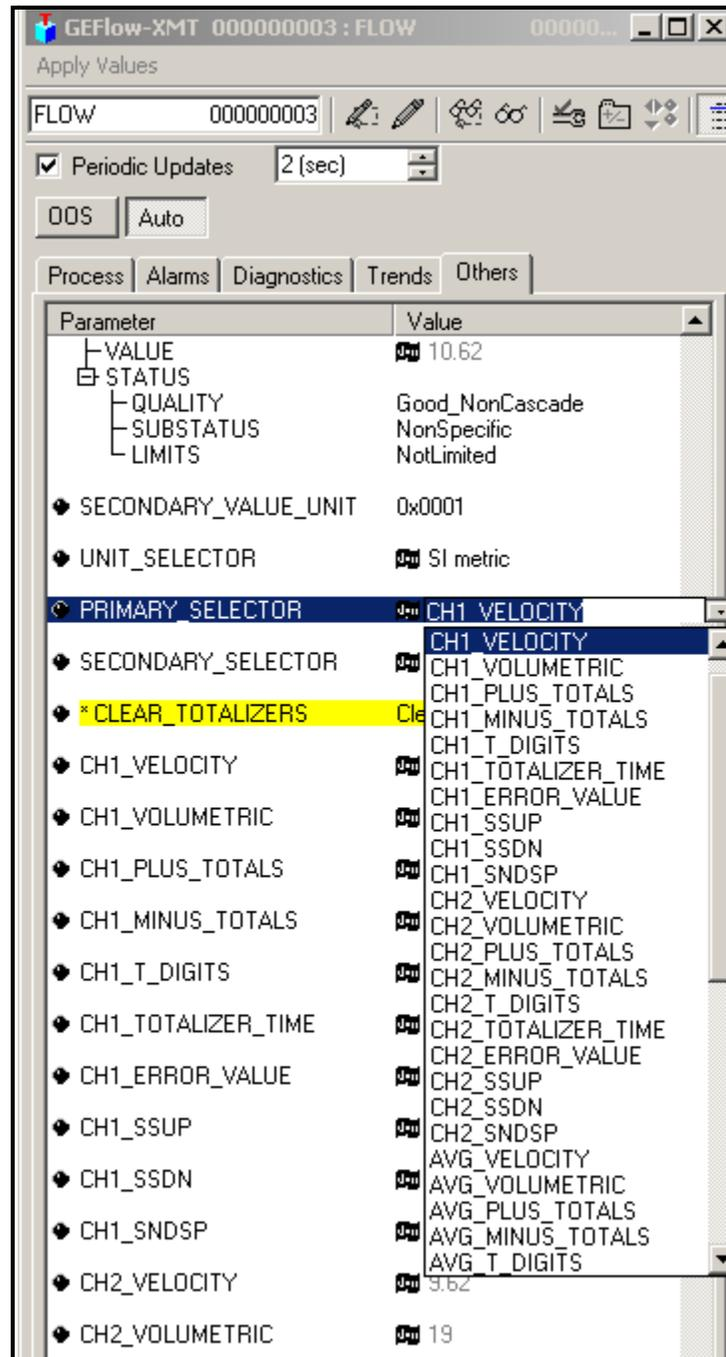

Figure 49: Primary Selector Drop Down List
2. Select the **Others** tab and open the drop down list for the PRIMARY_SELECTOR and SECONDARY_SELECTOR (refer to Figure 49 on page 63).
3. Choose the unit from the list (see Figure 49 on page 63).